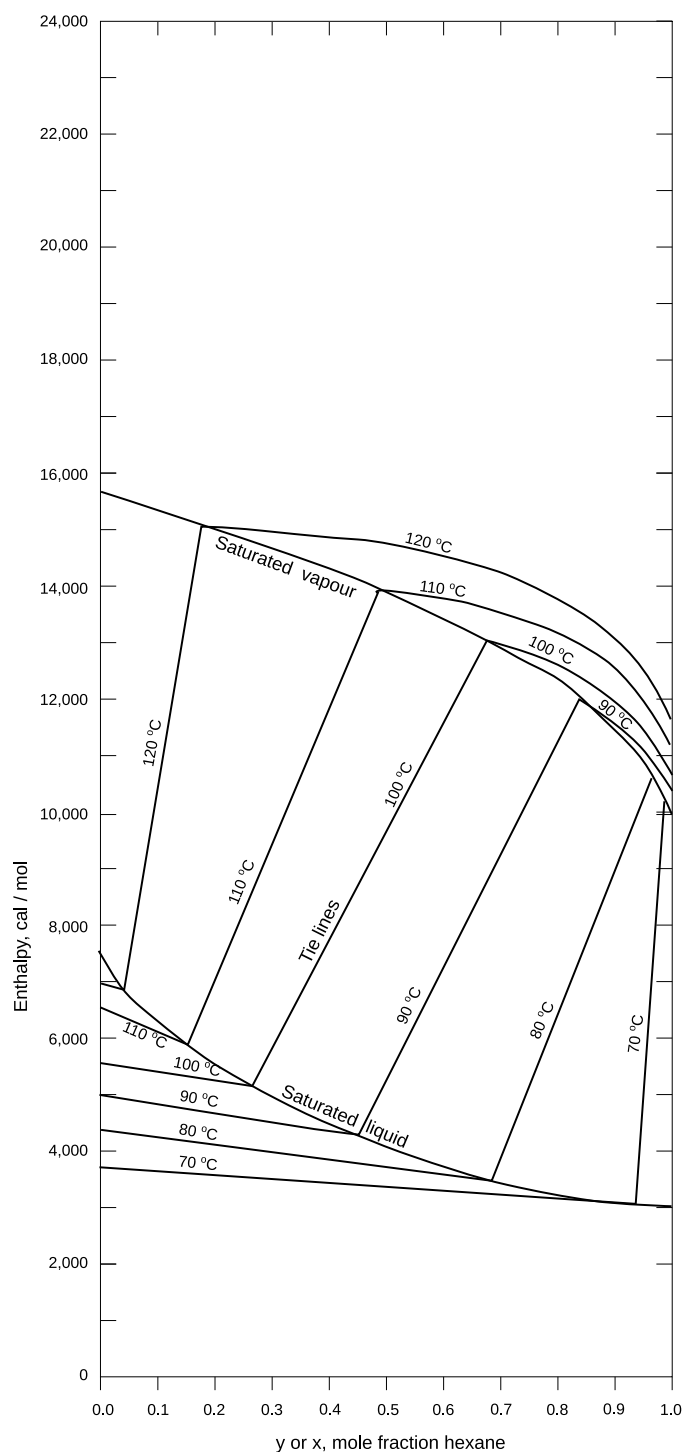

Figure 26: Enthalpy concentration diagram for hexane-octane mixtures at 760 mmHg. For use in Q. 38.
- a) A mixture of *n*-hexane and *n*-octane is to be separated by distillation to produce a bottom product containing no more than 3 mol% *n*-hexane and a top product of at least 95% purity of *n*-hexane. An enthalpy-composition chart is given in Fig. 26 which you should use and include in your solution booklet.